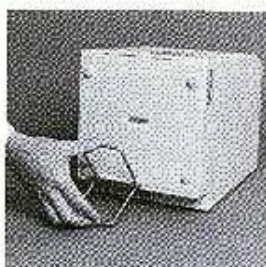

Figure 3-3
- c. Use the Macintosh chassis wedge to separate the case from the chassis as shown in Figure 3-3.